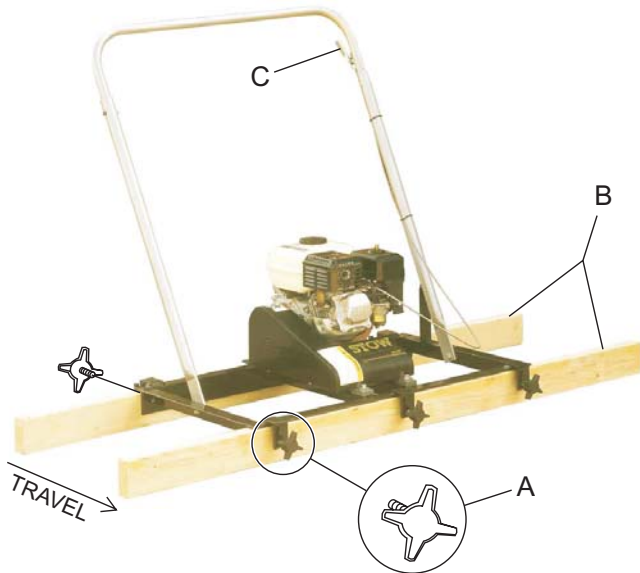

Figure 18. Screeding Beams
1. Place the machine on the screeding beams (Items B, Figure 18) and install the clamping studs (Items A).
5. To begin operation move the throttle lever (Item C, Figure 18) to the high speed or "Full Throttle" position quickly to prevent damage from occurring to the clutch. The "Full Throttle" position of this machine has been pre-set at the factory.
C. Pillow Block Bearings: After every 40 hours of operation, remove the belt guard (Item B, Figure 18) and grease each bearing (Item D) with quality grade multi-purpose grease.